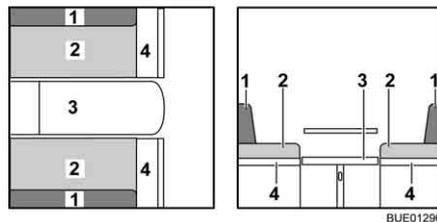

Fig. 123 During conversion
- Widen bench seat (Fig. 123,4).
- Remove the back cushions (Fig. 123,1) and lay them aside.
- Pull the seat cushions (Fig. 123,2) into the centre.